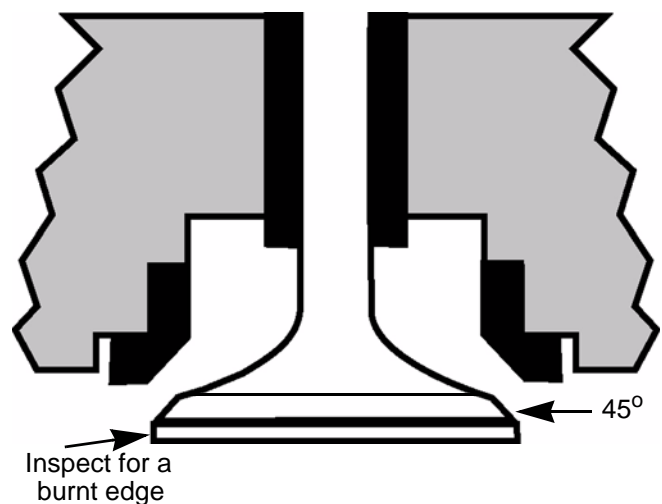

Figure 9.13
8. Inspect the valve stem. See Figure 9.13.